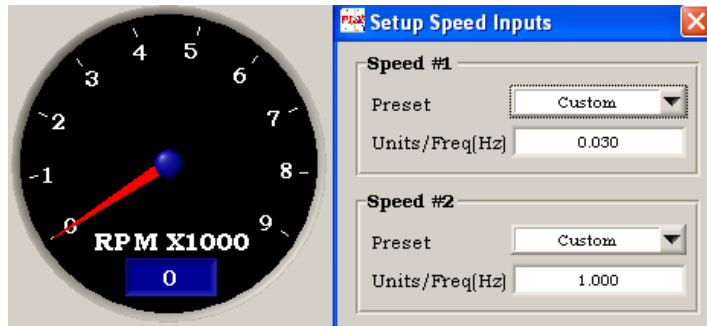
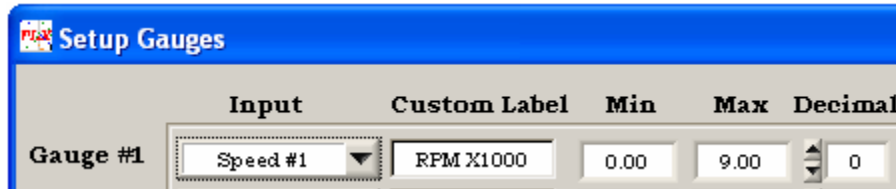

Figure 19: Configure Speed for RPM in multiples of 1000
Figure 20: Configure Gauge for RPM in multiples of 1000
*A simpler way is to interpret RPM as multiples of 1000. Thus in the gauge configuration, the range can be rescaled by inputting Min = 0 and Max = 9. The conversion factor needs to be changed since the scale is different now. The original conversion factor of 30 needs to be divided by 1000, (the multiple) to complement the new scale. The new conversion factor now becomes 0.03. Figure 19 and Figure 20 illustrate the necessary steps and the adjusted result.*